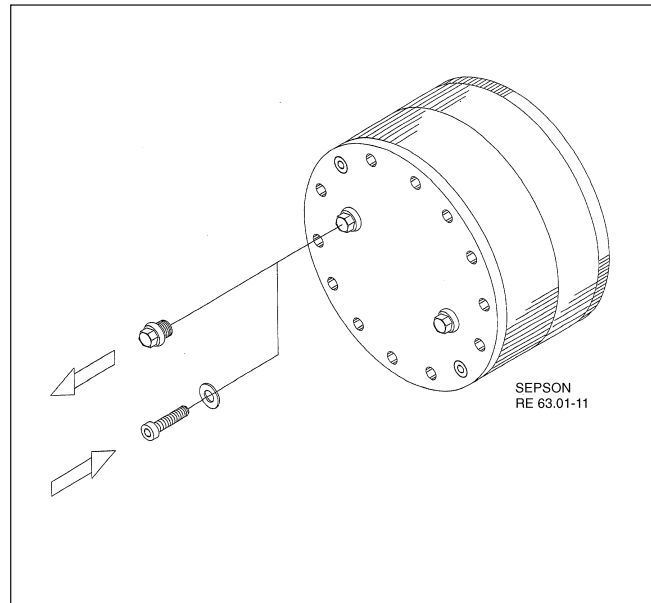

Fig 23 Release the brake in emergency
1. Unscrew the two plugs on the brake's end plate, see fig 23.